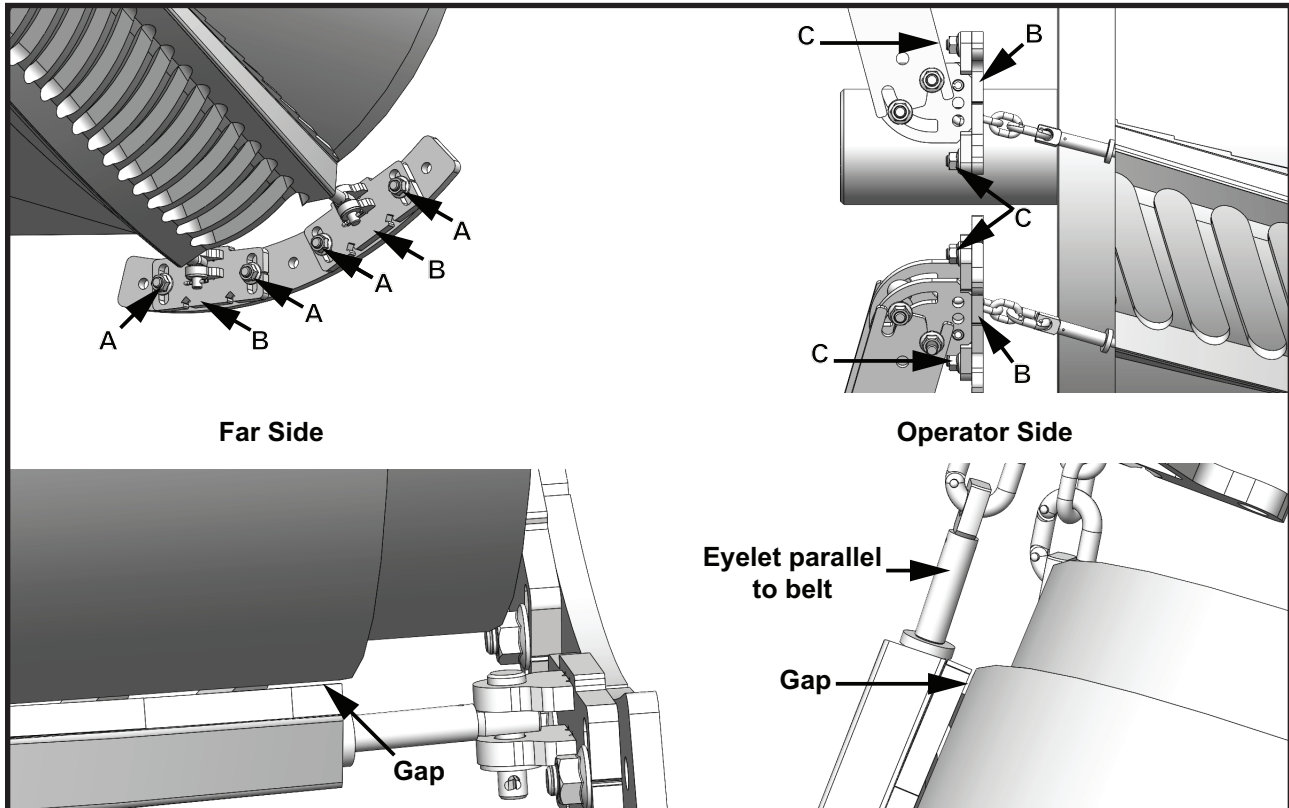

Figure 9. Positioning Cleaner
- g. Mount tensioner brackets (B) onto mounting brackets (A) using nuts (C). Hand tighten nuts. Position top bracket with roller (D) in the upper position and bottom bracket with roller (D) in the lower position.
7. Mount tensioner (E) onto bracket using carriage bolts and nuts (F).
8. Position tensioner (E) in desired location free from obstructions and tighten nuts (F).
9. Loosen nut (G) to the end of the threaded rod.
11. Route chain (H) through chute wall and tensioner bracket (B).
12. Pull chain into hook (I).
14. Ensure eyelets are parallel to belt (Figure 9).
15. Tighten tensioner nut (G) until center of cleaner is held firmly against head pulley.
16. Make sure each chain contacts roller in tensioner bracket (B) properly.